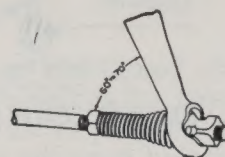

Fig. N19. Correct angle of Bendix levers with brakes released
2. Now check angle of cam shaft operating levers to which the pull rods are attached at the brake end. All levers should stand at just more than right angles fully applied or at approximately 65 degrees to their pull rods when brakes are released, as shown in Fig. N19. If levers do not stand at position of maximum leverage they should be reset as follows:
- (c) Re-install levers on serrations so that each stands at angle 60-70 degrees to its pull rod as shown in Fig. N19. Tighten clamp bolts.